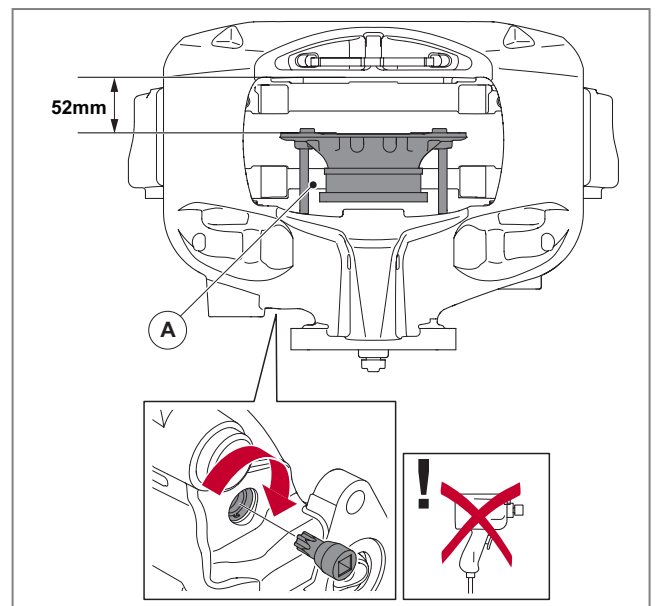

Fig. 49 - Releasing the thrust plate
- Use the Torx 55 socket to manually rotate the reset shaft clockwise in order to release the thrust plate (A). Continue extracting until the thrust plate unscrews fully and becomes detached from the adjustment screw, see ► Fig. 49. The point at which the thrust plate becomes detached is when the gap between the thrust plate inner pad face and the brake calliper outer pad face becomes smaller than 52 mm. Be careful when removing the thrust plate not to damage its internal thread or the external thread of the adjustment screw.